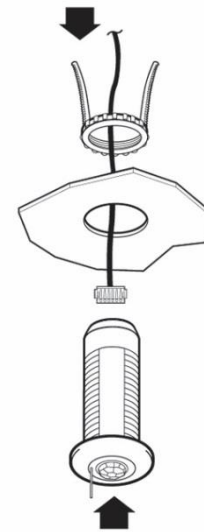

Figure 4: Fixture Mount Sensor
6.	Insert the Compact Sensor through the hole in the fixture. Use the spring arms from behind the sensor to fasten the Compact Sensor. See Figure 4.